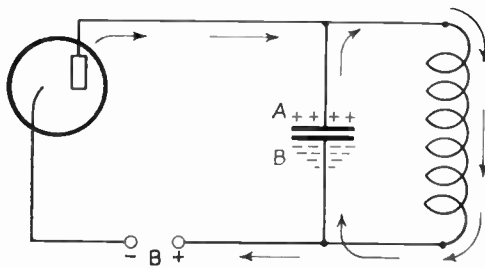

FIG. 291. Surge breaks through tank coil.
The Surge Breaks through the Tank Coil. When the pull of the B battery overcomes the back pressure of the tank coil, the first electron surge flows through the tank coil. The tank coil pull empties side *A* of electrons and loads them on side *B* (see Fig. 291). Side *A* is now positive and side *B* negative.
1. When side *B* of the tuning condenser in Fig. 291 is negative, what is the charge on the plate? What charge does the plate produce on the grid?
4. Show the current flow in the grid circuit when side *B* of the condenser in the plate circuit is negative, as in Fig. 291.